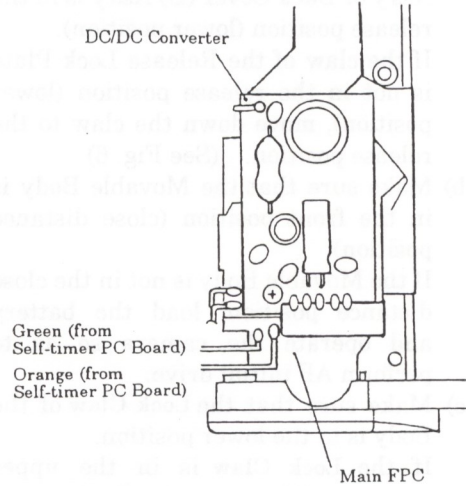

Fig.3
- 1) Peel off the Front Plate Rubber (R) (1AF28700).
- 2) Peel off the Front Plate Rubber (L) (1AF28600) and remove the Self-timer Window (1AH15200).
- The Front Plate Rubber (L) and Front Plate Rubber (R) are fixed to the Front Plates with double-stick tape.
- Once the Front Plate Rubber (R) and Front Plate Rubber (L) are peeled off, the adhesive strength of the double-stick tapes weakens or they may be torn. Be sure to replace the double-stick tapes with new ones.
- 3) Remove the Front Plate (L) Setscrews (61913526) × 2, (61912026) × 2 and take off the Front Plate (L) (1AF28400).
- 4) Unsolder the Orange and Green lead wires (from Self-timer PC Board) on the Main FPC. (See Fig. 3)